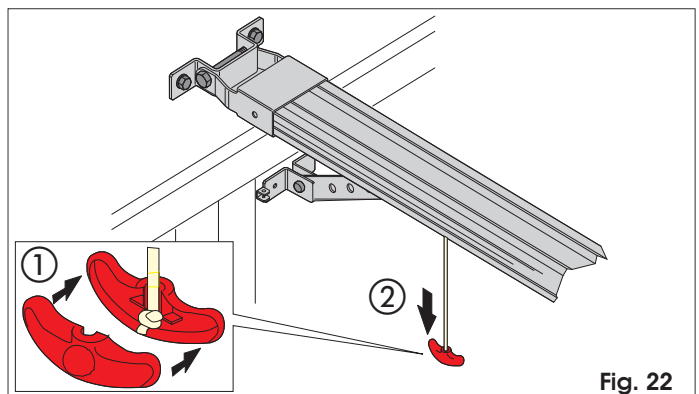

Fig. 22
- 2) Make a knot at the end of the rope and assemble the release handle (Fig. 22).
- 3) Pull the release handle down and check if the door can be moved manually (Fig. 22).